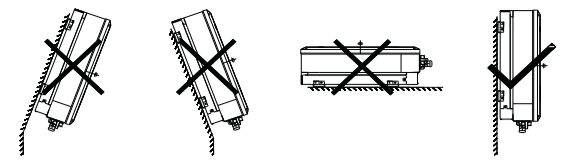

Figure 2 Installation position
- (1) The environment temperature is between -25°C~60°C.
- (2) The installation surface should be perpendicular to the horizontal line. Refer to Figure 2.